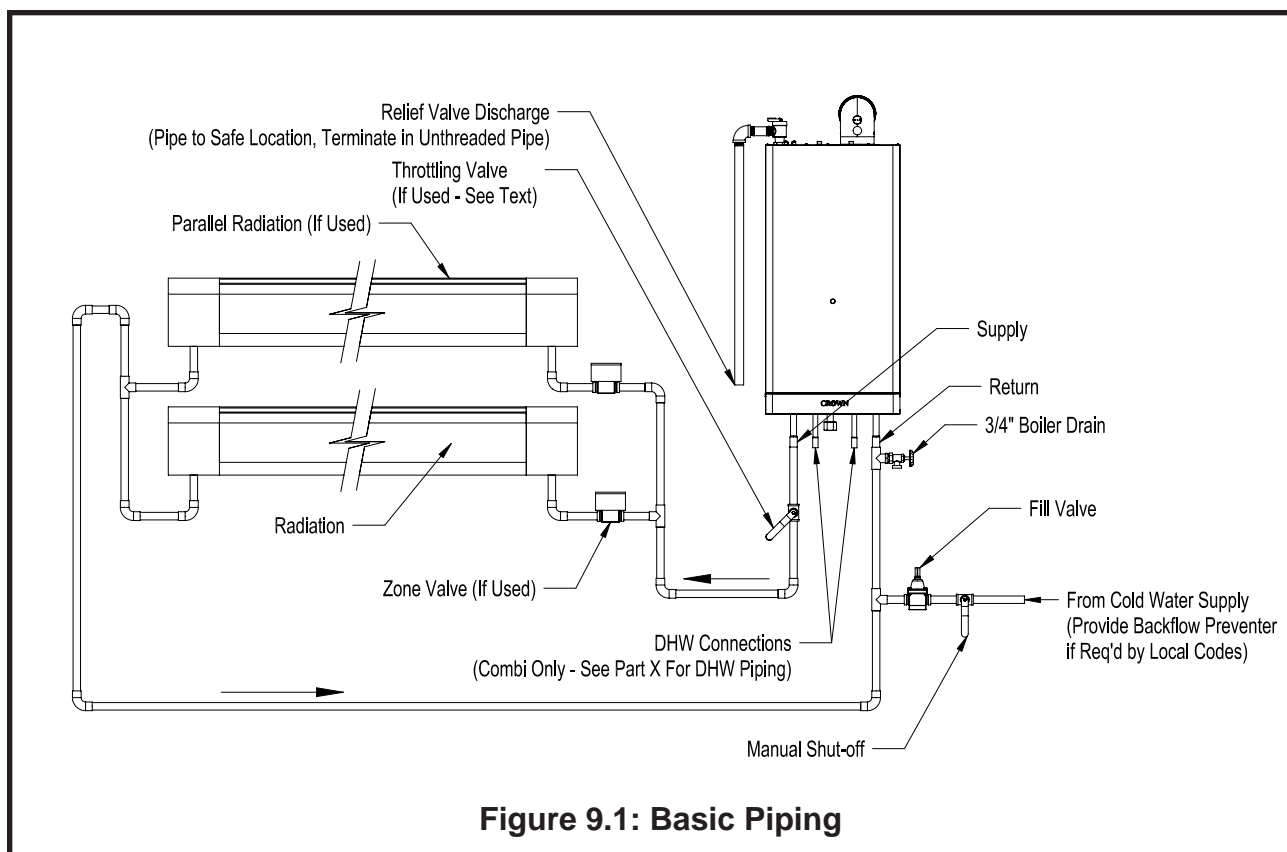
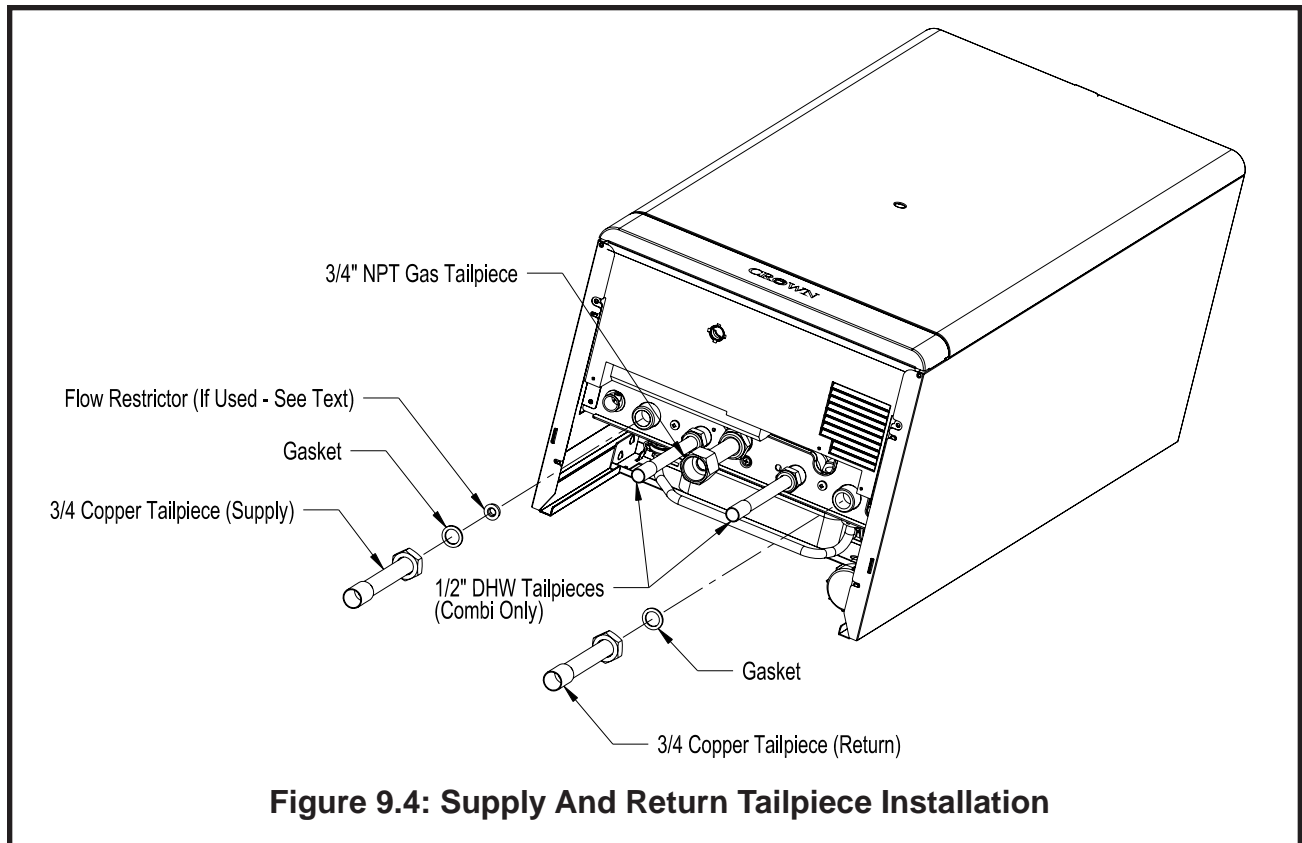
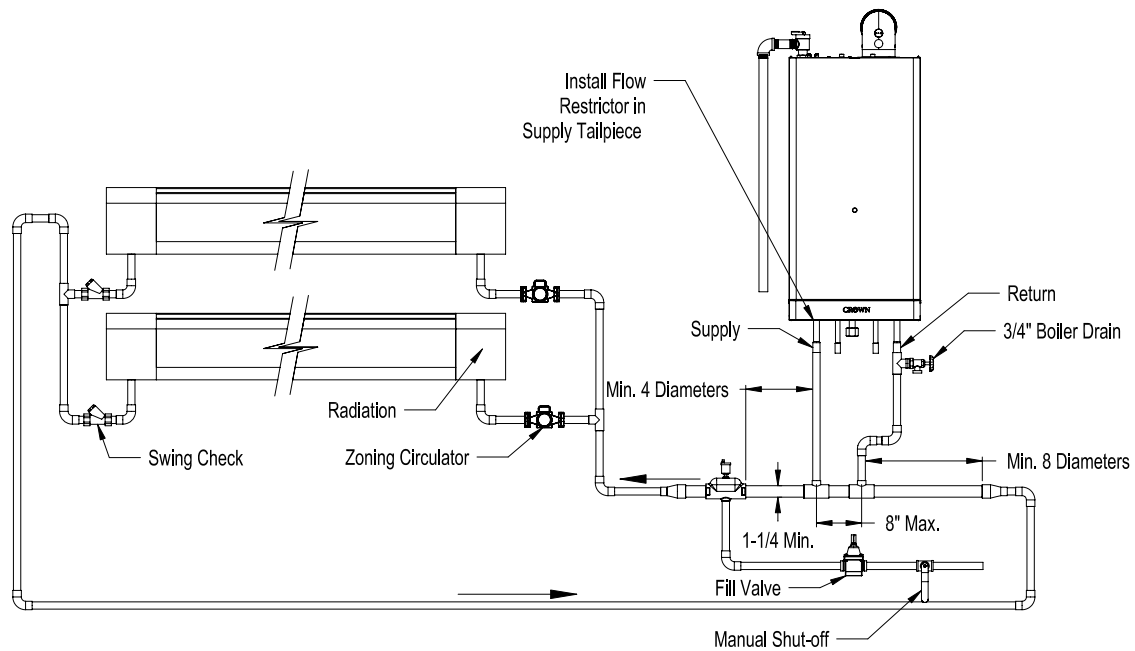

Figure 9.1: Basic Piping
Figure 9.4: Supply And Return Tailpiece Installation
Figure 9.5: Primary-Secondary Piping
Figure 9.1 shows typical boiler system connections on a single zone system. Additional information on hydronic system design may be found in *Installation of Residential Hydronic Systems* (Pub. #200) published by the Hydronics Institute in Berkeley Heights, NJ. The components in this system and their purposes are as follows:
- 3) Throttling Valve or Flow Restrictor - This boiler is equipped with a differential pressure switch to prove that there is flow through the boiler before allowing it to fire. Reliable operation of this switch requires that there be a head loss across the heating system of at least 5.1ft wc. In order to assure that this head loss will always be present, either a throttling valve must be installed as shown in Figure 9.1 or the flow restrictor shown in Figure 9.4 must be installed. Use the following guidelines to determine which device to use:
- If the boiler is connected to a primary-secondary system (Figure 9.5), install the orifice in the supply tailpiece as shown in Figure 9.4.
- If the boiler is connected to a circulator zone system, primary-secondary piping must be used. Install the orifice as shown in Figure 9.4.
- 7) **Fill Valve (Required)** – Either a manual or automatic fill valve may be used. Connect the fill as shown in Figure 9.1.
- 11) **Drain Valve (Required)** – Install a 3/4" boiler drain (not supplied) in the return piping as shown in Figure 9.1.
Boiler supply and return connections are located on the bottom of the boiler as shown in Figure 9.4. Copper 3/4" tail pieces are provided in the fitting bag along with gaskets. Sweat the first copper fittings to these tail pieces and then connect the tail pieces to the boiler using the gaskets provided. If required, install the flow restrictor in the supply as shown in Figure 9.4.
- 1) **Primary-Secondary Piping** – Primary-secondary piping is required when circulator zoning is used or when the system flow rate must be greater than 5.5 GPM. In these cases, the piping shown in Figure 9.5 is used so that the flow through the system is completely independent of the flow through the boiler. This ensures reliable operation of the boiler's flow switch.
When assembling the piping shown in Figure 9.5, be sure to observe the minimum dimensions shown. The minimum pipe size of the primary piping in the vicinity of the tees is 1 1/4". At least 11" (8 diameters) of 1-1/4" straight pipe must be installed upstream of the tees as shown. At least 5 1/2" (4 diameters) of 1-1/4" straight pipe must be installed downstream of the tees.